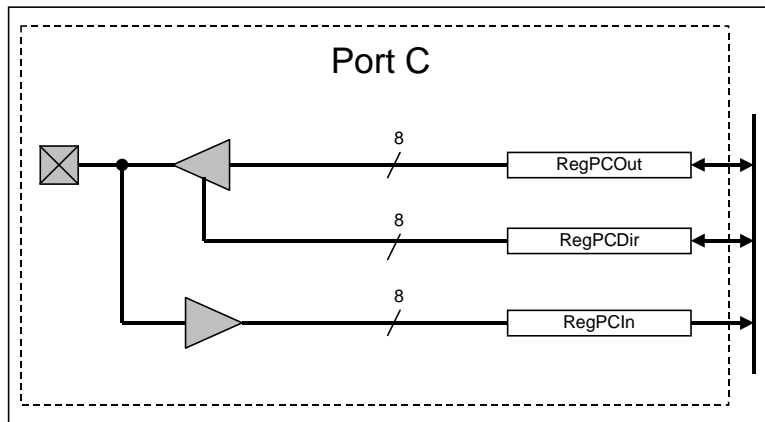

Figure 13-1 : structure of Port C
Port C (PC) is a general purpose 8 bit input/output digital port. Figure 13-1 shows its structure.